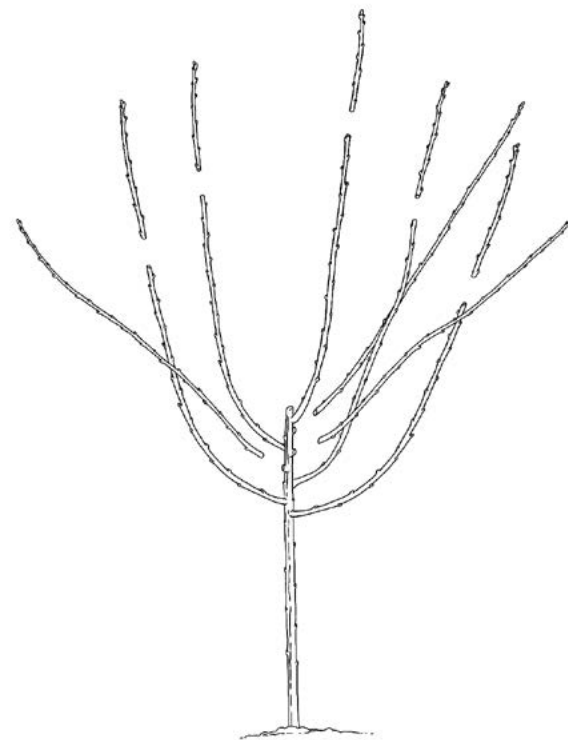

Figure 26
- Head all leaders about 24 inches from their base in order to promote branching and establish a permanent bottom whorl of lateral scaffolds (Figure 26).